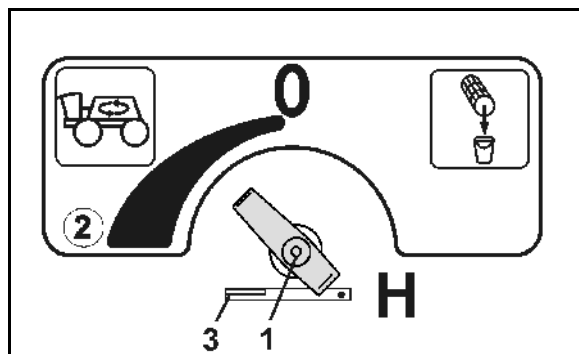

Fig. 62
- The additional agitator must be set on the setting tap (Fig. 62/1).
The additional agitator is switched off when in setting tap position 0. The fastest stirring performance is available in position (Fig. 62/2).
Safety device for drainage function on the pressure filter (Fig. 62/3).